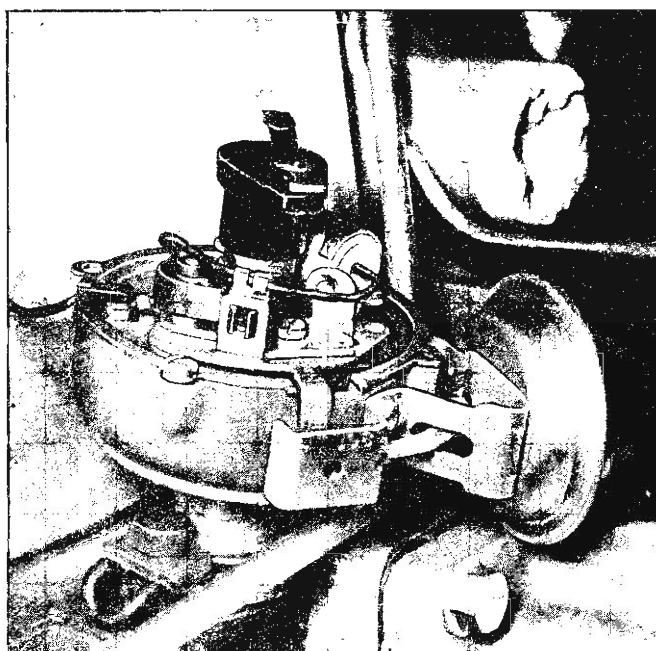

Fig. 15i—Six Cylinder Engine Distributor
2. Push the distributor down into position in the block with the housing in a normal "installed" position (fig. 15i).
2. Position distributor to opening in block in normal installed attitude (fig. 15i and 16i), noting position of vacuum control unit.